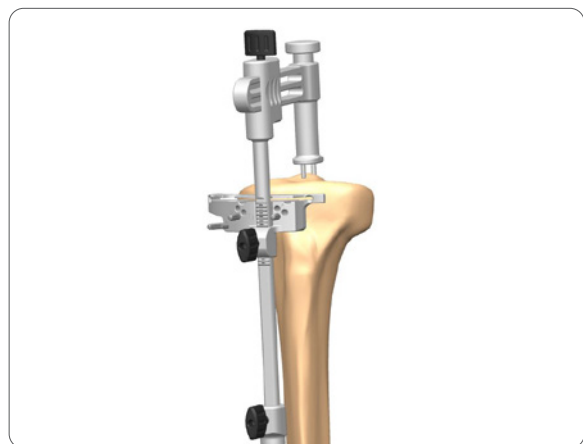

Figure 100
1. With the Adjustable Tibia Stylus set to the desired resection level, using non-headed 65mm pins, pin the cutting guide in position through the holes marked '0.' For additional fixation, a headed or non-headed 65mm pin can be inserted through the oblique pin hole (**Figure 100**).